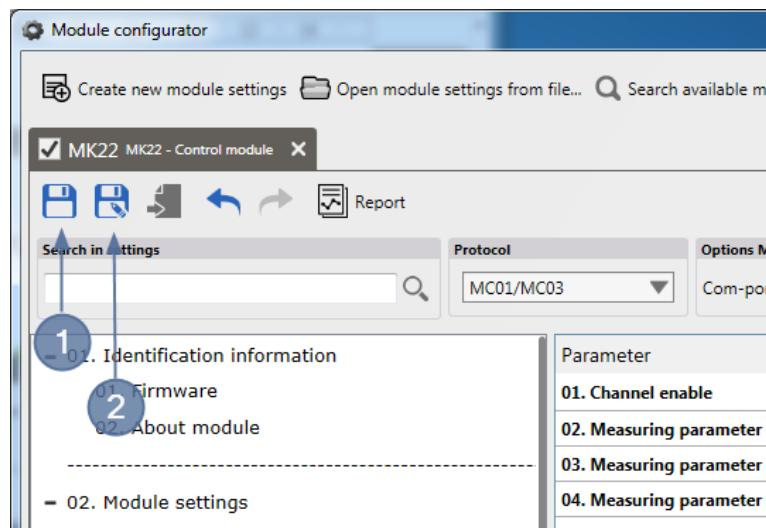

Figure 13 - Save menu
- 1) to save changes made into open settings file, press **Save** button (Figure 13, item 1) and go to step 3. To save settings file with another name, press **Save as** button (Figure 13, item 2) and go to step 2.